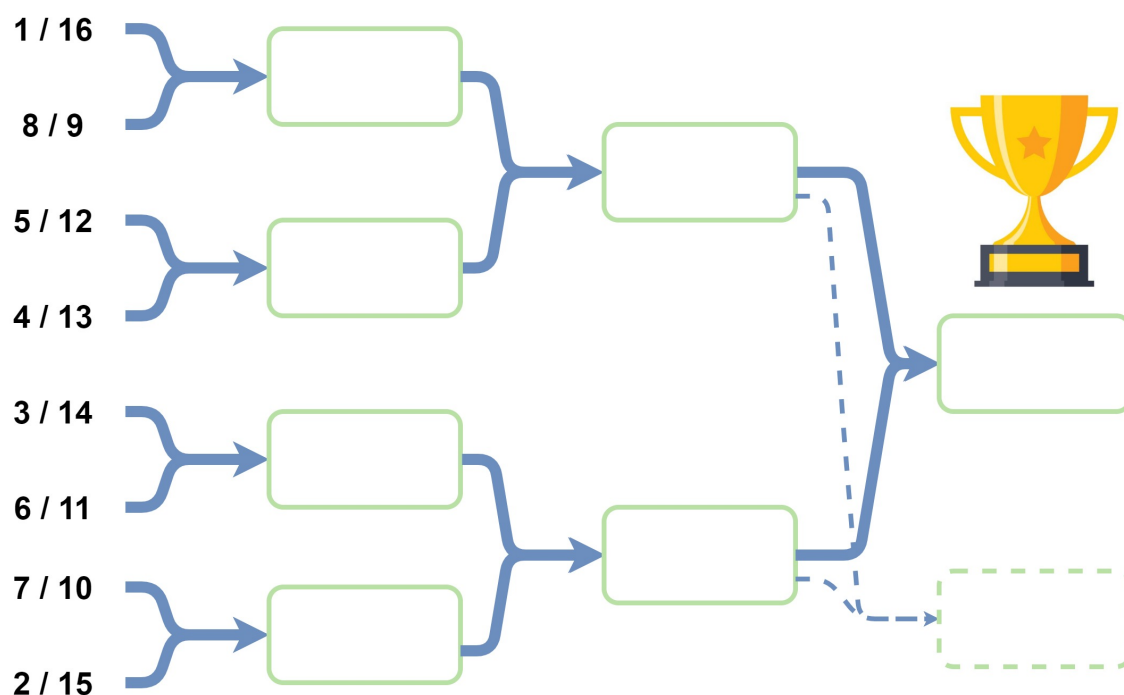

Figure 7: Tree of the final phase
Each team that wins its play-off match will be included in the main draw of the final phase of the match (B). At the end of the play-off phase, the tree of the final phase of the match (B) presented in Figure 7 may be revised to more accurately represent the level of each team.